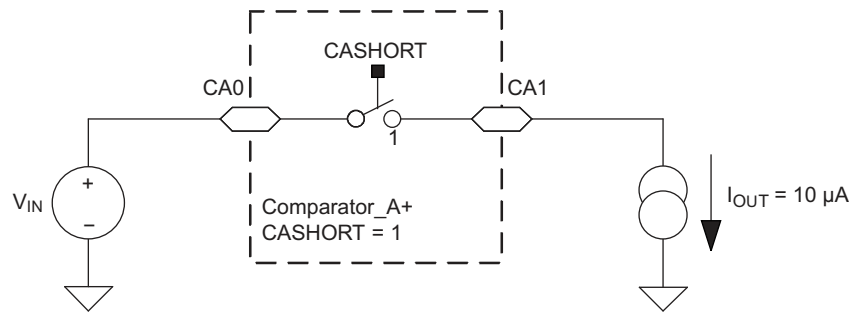
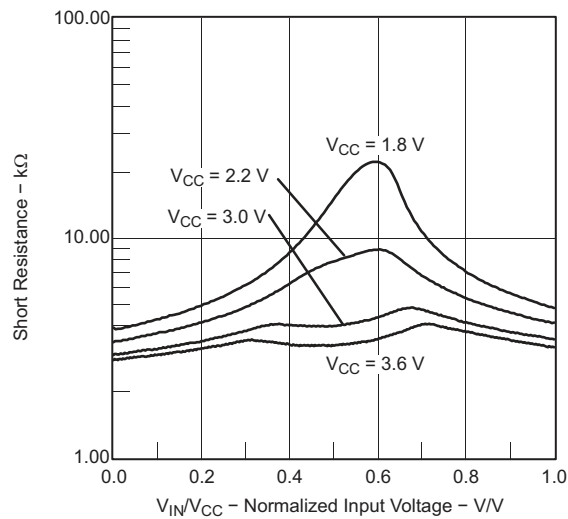

Figure 8-34. Comparator_A+ Short Resistance Test Condition
Figure 8-37. Short Resistance vs V_{IN}/V_{CC}
- (1) The leakage current for the Comparator_A+ terminals is identical to I_{lkg(Px,y)} specification.
- (2) Also see Figure 8-34 and Figure 8-37.
- (3) The input offset voltage can be cancelled by using the CAEX bit to invert the Comparator_A+ inputs on successive measurements. The two successive measurements are then summed together.
- (4) The response time is measured at P2.2/CAOUT/TA0/CA4 with an input voltage step and with Comparator_A+ already enabled (CAON = 1). If CAON is set at the same time, a settling time of up to 300 ns is added to the response time.